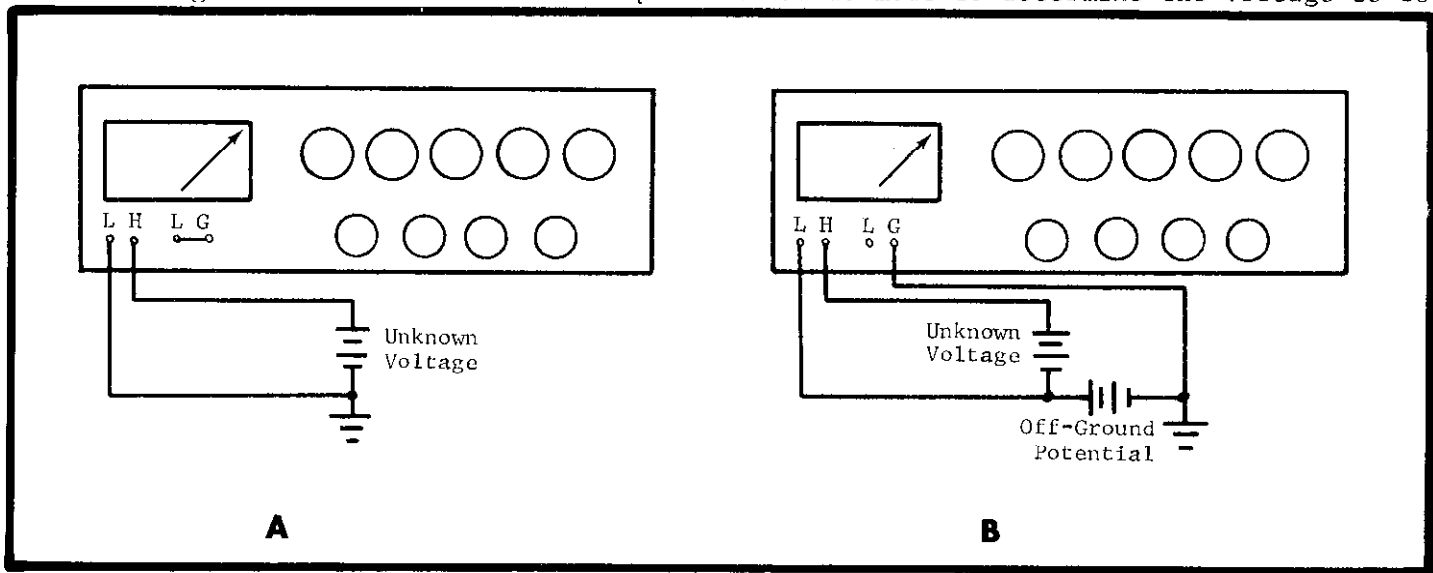

FIGURE 4. Input Connections to Model 660A. The two diagrams show the input circuit for measuring at ground and for floating.
2. Connect the unknown voltage to the input terminals, using the LO Post for the low impedance terminal of the unknown. Refer to Figure 4.